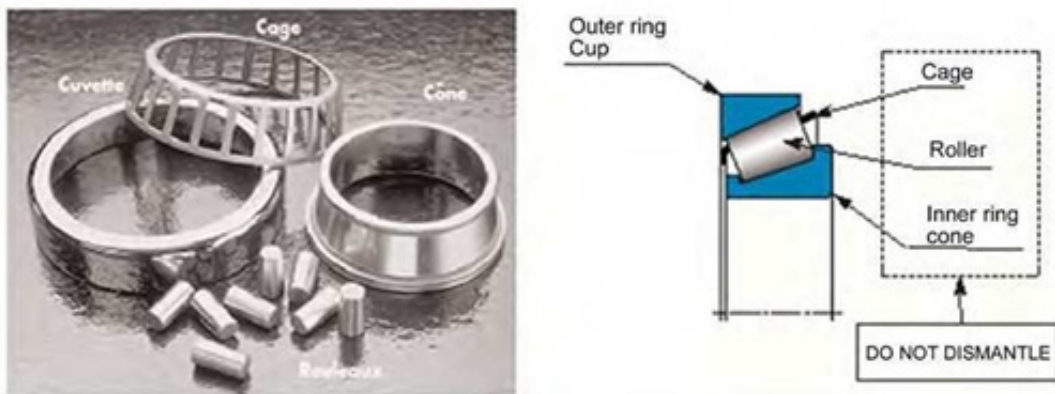
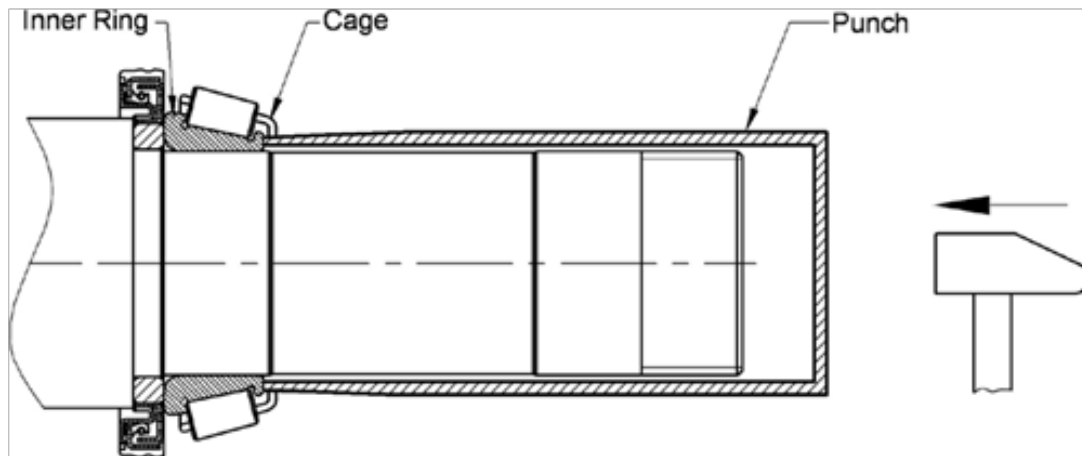

Fig. 23
Fig. 24
- Fit at bottom the interior ring (cone) of the large bearing on the rocket, it is important to take care not to damage the cage of the bearing, to go up the cone unit, rollers and cage (See **Fig.23**) on fixed to use if necessary tools as shown in the **Fig.24** the effort to push must apply only to the cone, in no case on the cage or the rollers what involves a deterioration of the bearing.